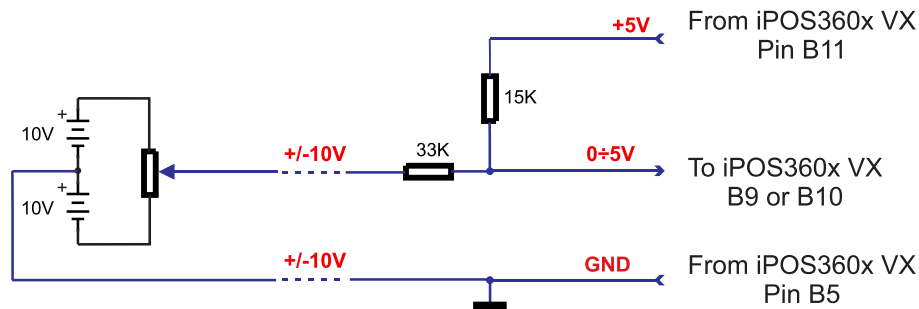

Figure 3.17. +/-10V to 0-5V adapter
2. Default input range for analog inputs is 0÷5 V for REF and FBDK. For a +/-10 V range, see Figure 3.17.